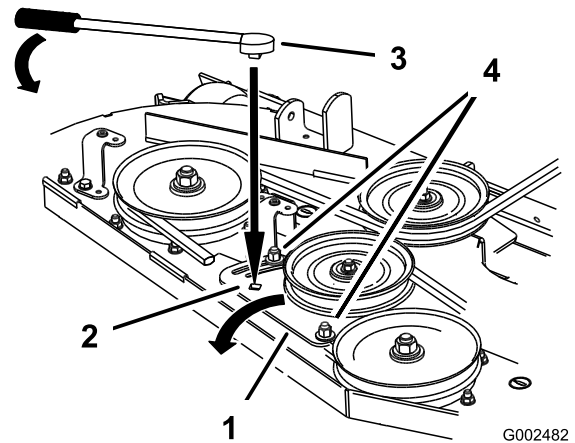

Figure 53
5. If adjustment is required, loosen the mower idler plate and adjust it (Figure 53).
6. Insert a ratchet or breaker bar into the square hole in the mower idler plate to adjust the tension (Figure 53).
7. To increase belt tension, rotate the mower idler plate until resistance is felt and rotation stops. Do not go past when it stops (Figure 53).
8. Tighten the idler plate bolts (Figure 53).
- Adjust the belt tension and the idler plate, if necessary, and tighten all hardware securely (Figure 53).